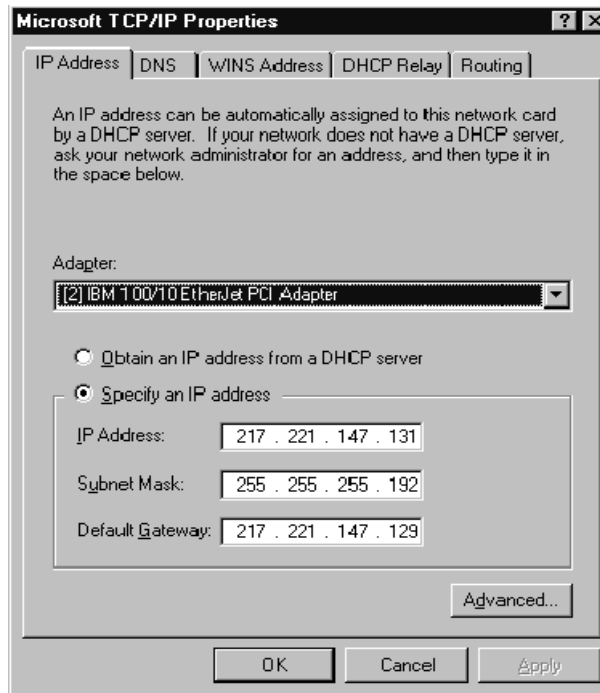

Figure 6-18. TCP/IP Properties
9. Click **C**lose to end network configuration. Windows NT will perform an automatic bind process. TCP/IP Direct Connect is bound to Microsoft's TCP/IP stack on the Netfinity server. When Windows NT attempts to perform this bind, the standard Microsoft TCP/IP Properties dialog box will display (Figure 6-18).